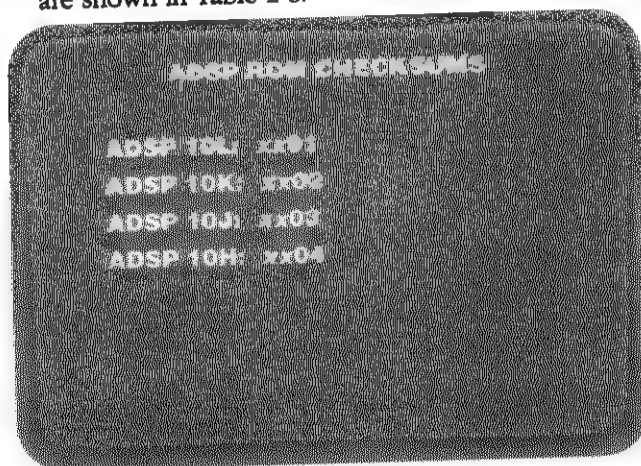

Figure 2-26 ADSP ROM Checksums Tests Screen
- *ROM Checksums* tests the graphic ROMs on the ADSP PC board. When the checksum test is complete a hexadecimal number follows each ROM as shown in Figure 2-26. The first two digits in each hexadecimal number can be any number, but the last two digits must be the ones shown in Figure 2-26. If the last two numbers are different, then the ROM is bad or it is not on the board.